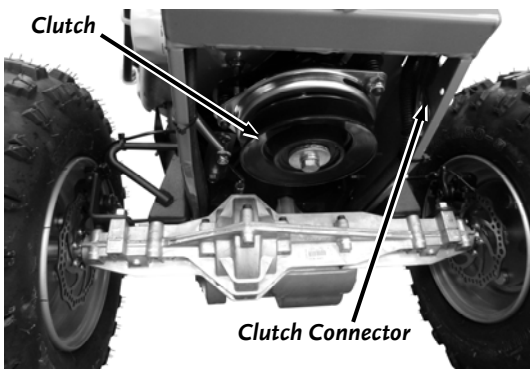

Figure 33
1. Remove the Brush Deck (See section "Removing the Brush Deck" on page 15) and tip the machine back on its handlebars to access the Clutch Connector under the machine (**Figure 33**).